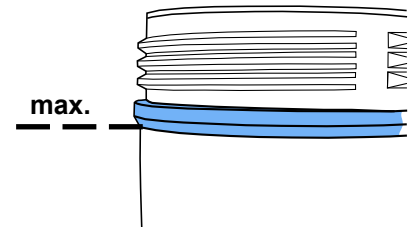

Fig. 7
- Ventilate the blasting tank completely by pressing the ventilation valve (5).
- Unscrew the tank lid (4). (If it is not possible to loosen the lid, there is still pressure within the blasting tank >>> Press the ventilation valve again!)
- Add abrasive up to the maximum fill level (Fig. 7) (the point where the tank jacket thickens just below the thread).